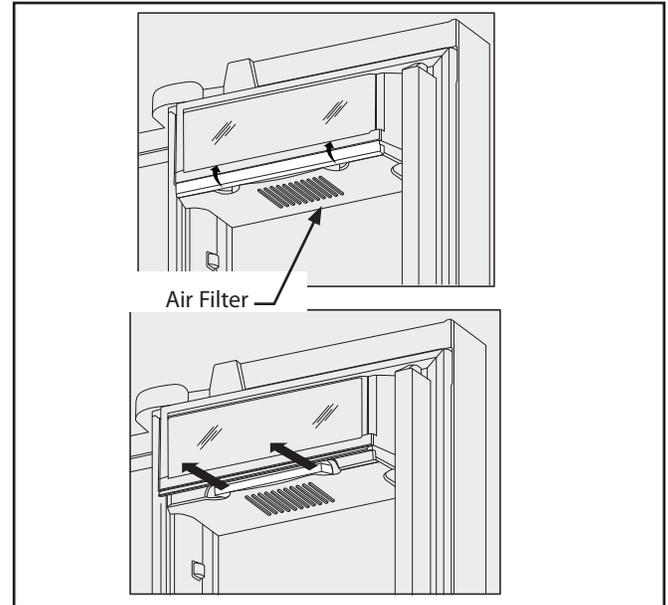

Figure 6-32.
1. Open the air filter door. (See Figure 6-32)
5. Press and hold the Air Filter Reset button on the control panel for three (3) seconds. When the display changes from "Replace" to "Good," the status has been reset.